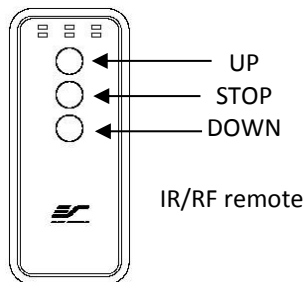

Fig.1
1. **IR remote control (Item A, Fig 1)**: The Infrared functions by direct line of sight contact using a beam range of 30 feet. Aim the IR remote at the circular window located on the left side of the screen.